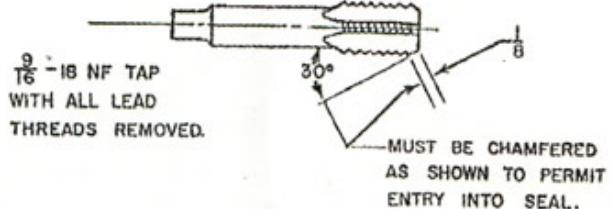

FIG. 1
7. Screw reworked tap (fig. 1) into seal. CAUTION: Tap must be seated in seal in no more than 2 or 3 turns or damage to the rear bushing will occur.